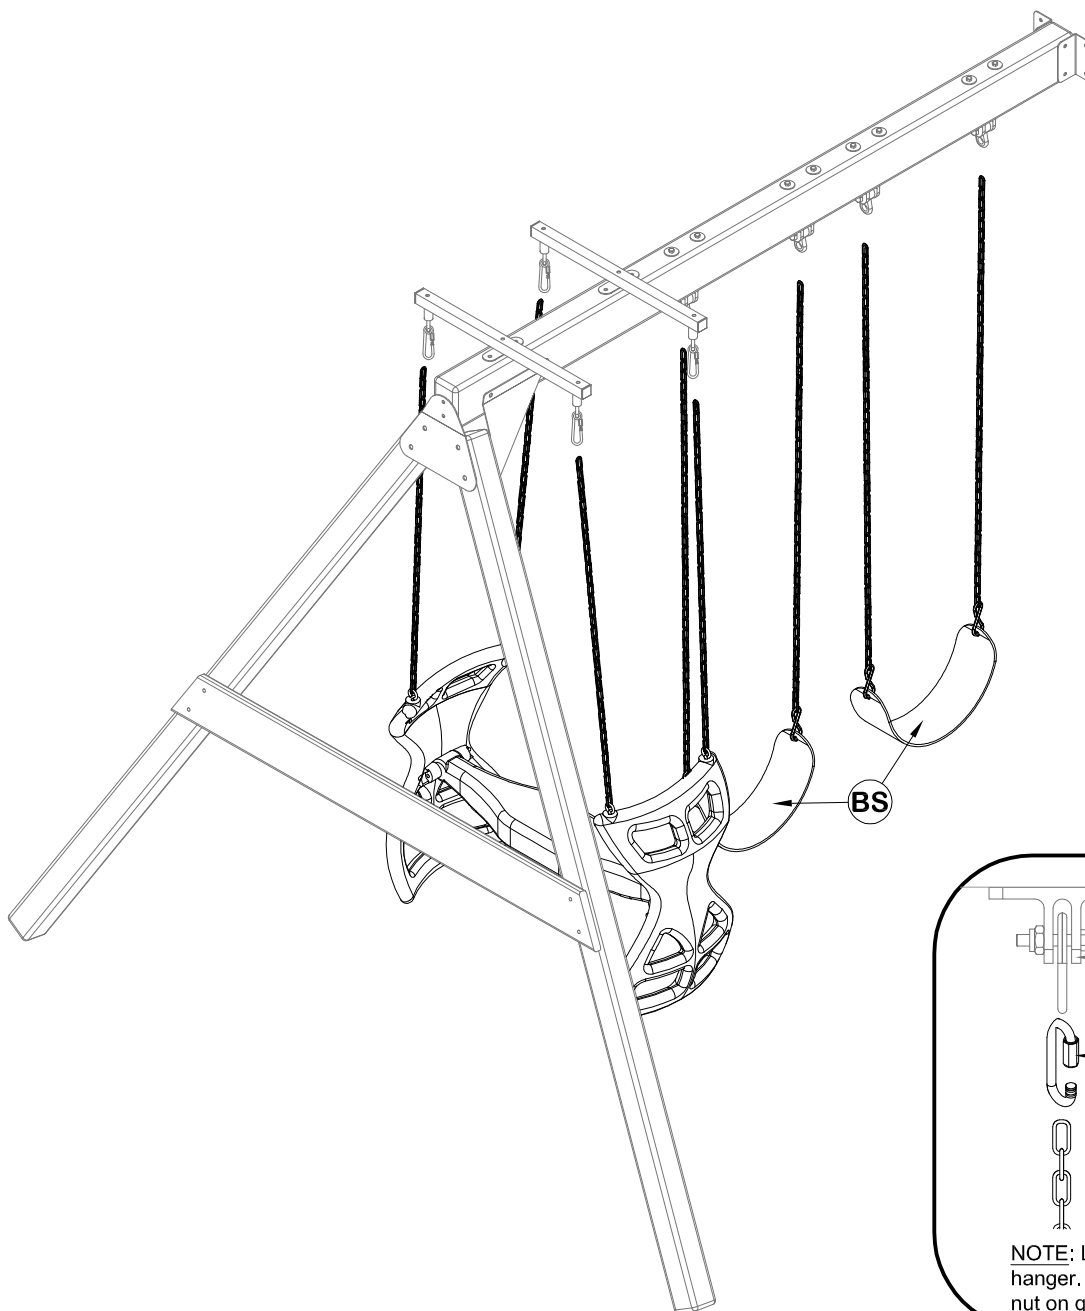

Fig. 32
- (2) 'BS' - Swing Seat Assemblies
Step 2: Hang swing assemblies as shown. Use quick links AZ to connect swing seat chain to the swing hangers AX. Tighten quick links to secure chain (Fig. 32).